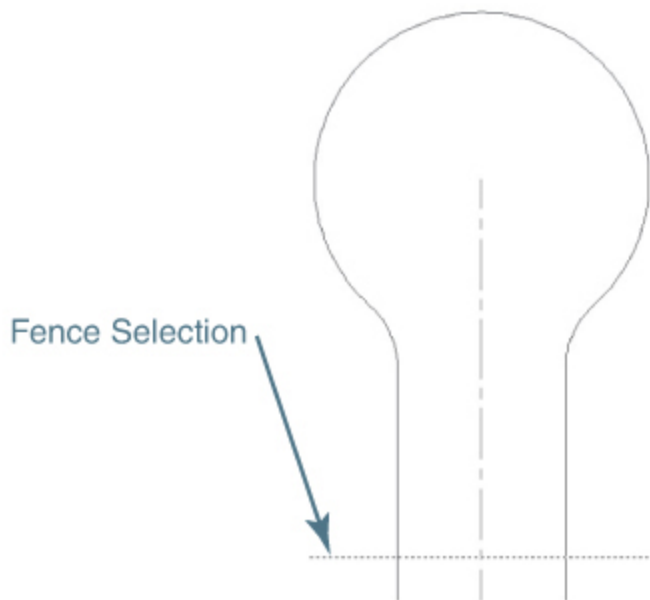

Figure 8-40
- 4 Type **F<Enter>** to specify a **Fence** selection. Draw a fence through the three bottom lines (see Figure 8-40), and press **<Enter>** to end the selection process. AutoCAD will lengthen the three lines by another 25 units.